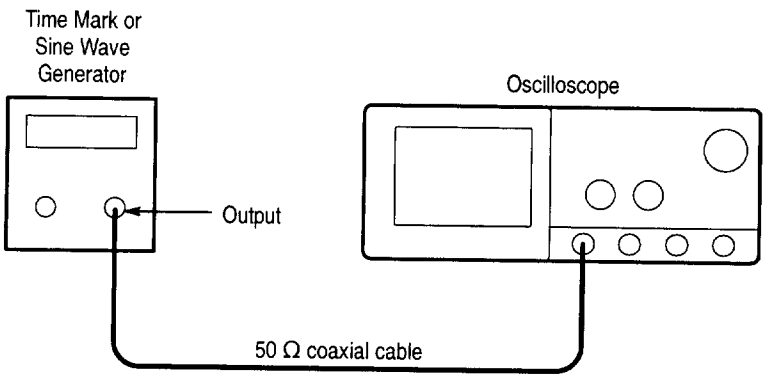

Figure 1–12: Initial test hookup
- a. *Hook up the test-signal source:* Connect, through a 50 Ω precision coaxial cable, the output of the generator to **CH 1** (see Figure 1–12).
- Set horizontal modes. To do this, press the main-menu button **Time Base**. Press the side-menu buttons **Delayed Only** and **Delayed Runs After Main**. See Figure 1–13 on page 1–52.
- If using a time-mark generator, align the trigger **T** to the center vertical graticule line by adjusting the horizontal **POSITION**. See Figure 1–13 on page 1–52.